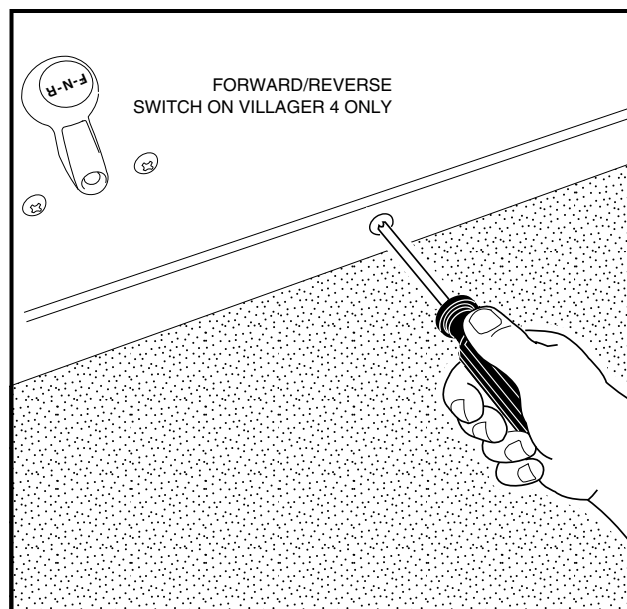

Figure 4-8 Kick-Plate Screws
6. Remove two screws, washers and nuts located at the bottom edge of the seat support panel (in kick-plate just above the floor mat) **(Figure 4-8, Page 4-8)**.
- 1.1. Tighten kick-plate nuts to 48 in-lb (5.4 N·m) while holding the kick-plate screws (**Figure 4-8, Page 4-8**).